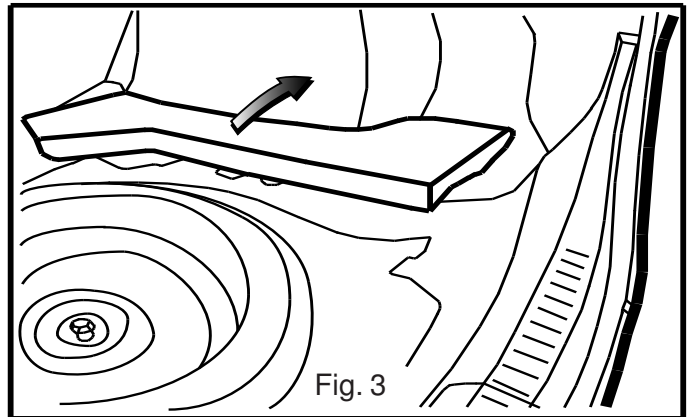

Fig. 3
5. Remove the right side foam panel. (Fig.3)